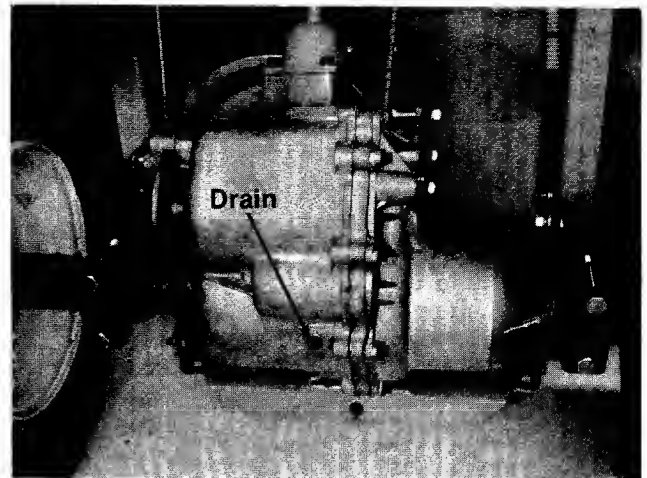

FIGURE 31.
7. **Transaxle.** Check oil level after every 25 hours of operation or once a season. Remove the rear plug to check. Oil should be to the point of overflowing. Drain and change oil every 2 years. Drain plug located on the bottom of the transaxle. It is lubricated with 1½ pints of SAE EP 90 oil. See figure 31.